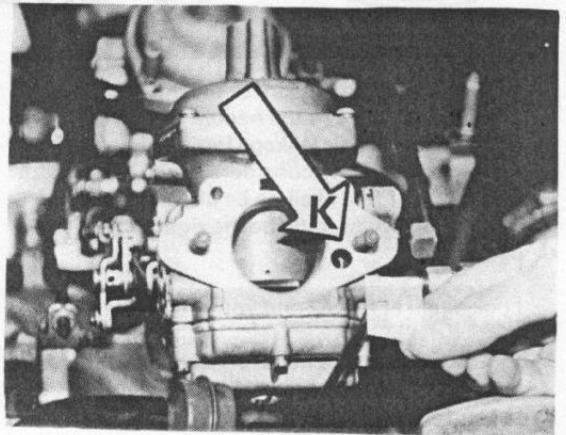

FIG. 75
19. Since we cannot be sure if the "Mixture Temperature Compensators" are working correctly or not, remove both air intake adaptors and seal off air passage to the compensator with tape "K". Fig. 75.